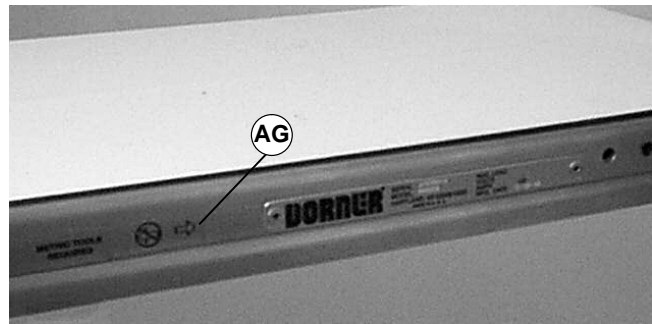
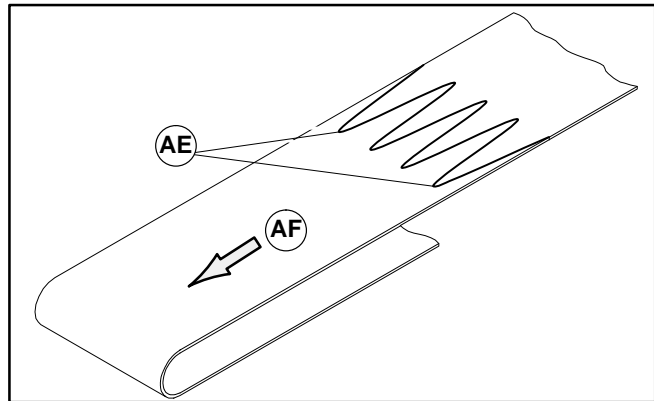

Figure 24
Figure 25
IMPORTANT: On a flat belt conveyor, the wiper is installed on discharge end. Belt travel direction is identified by an arrow decal on the side of the conveyor (AG of Figure 24). With a reversing gearmotor, a second bottom wiper must be installed on opposite end.
- Orient the conveyor belt so that the splice leading fingers (AE of Figure 25) point in the direction of belt travel (AF) as identified by the label (AG of Figure 24).
1. Orient the conveyor belt so that the splice leading fingers (AE of Figure 25) point in the direction of belt travel (AF) as identified by the label (AG of Figure 24).